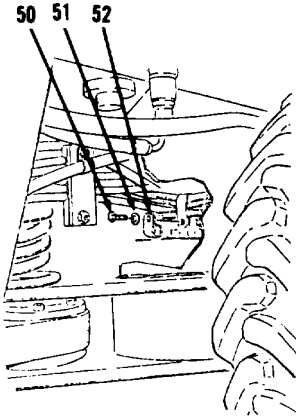

Figure 10-174.
- 21. Remove bolt (50), washer (51) and clip (52, Figure 10-174) from under center of engine.